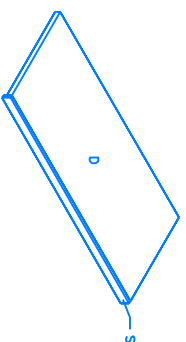

FIGURE 6
- 5) Assemble shelves as shown (Fig 6) by gluing and nailing pieces S to pieces D and E with 1" finishing nails. Glue and nail on pieces Q and R with 1" finishing nails. If using hardwood, pre-drill pilot holes in shelves to prevent splitting. Wipe off excess glue.